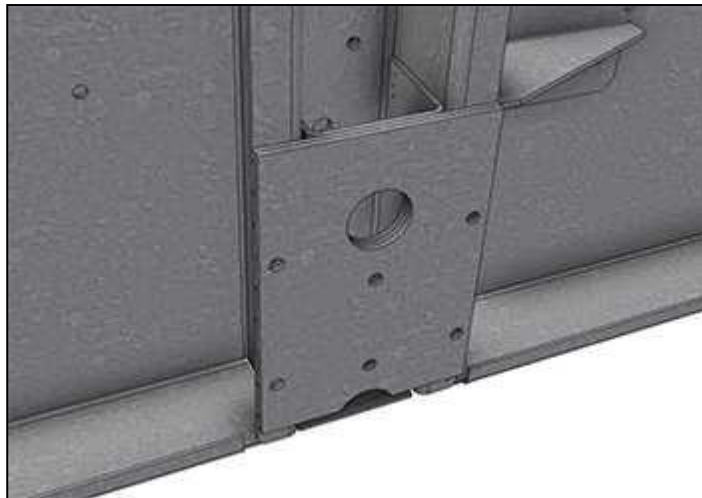

Figure 1. Lifting Ear
4. For each unit, only one lift is required. Multiple lifting ears with 1-3/4" holes are provided as shown in **Figure 1**.